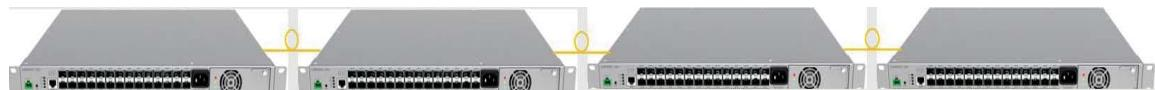

Figure 14. DEU Daisy Chain Connection
- Flexible network architecture: One DCU supports up to 16 DEUs\* by star and/or daisy chain connections, which meets flexible site deployment requirements. The DEU connection topology is shown in Figure 14.
1. DEU supports flexible network architecture of 4 level daisy chain connections as shown in Figure 14.